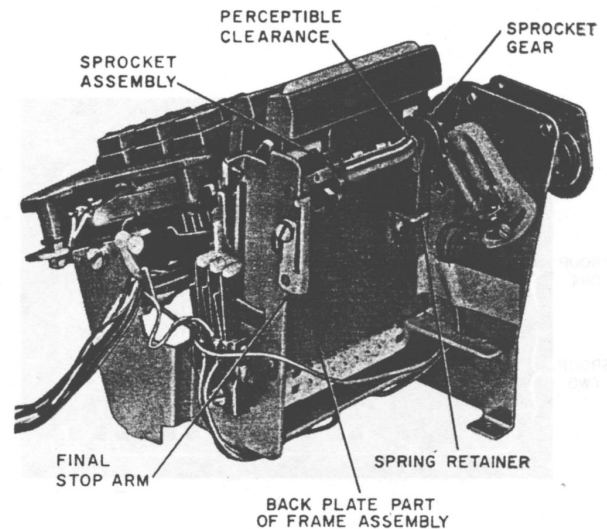

Fig. 4 — 26-Type Dial Rear View
- Sprocket assembly — provides motor action (Fig. 4)
(a) Unwind drive spring by pulling out on final stop arm (Fig. 4) until there is no tension on spring retainer.